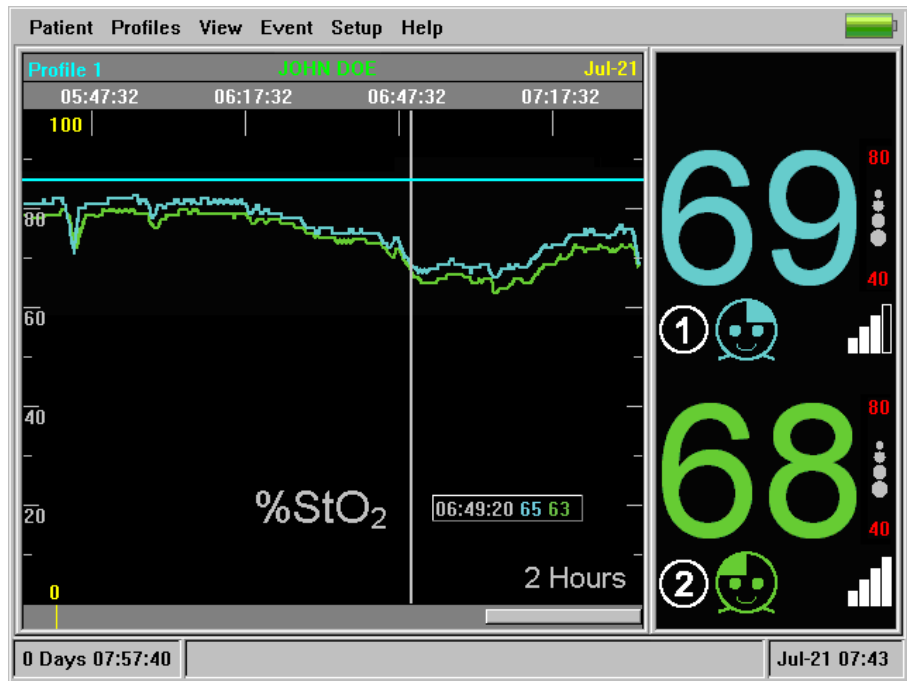

Figure 37: Horizontal Position of Event
- 2 Press the rotary knob once more to add a horizontal line to the trace (see Figure 37 below).